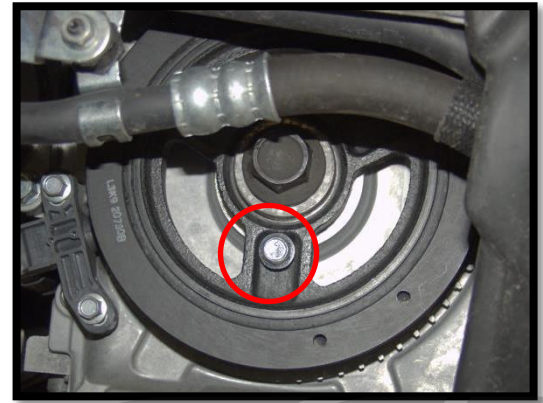

Figure 3q
- q) Remove the M6 bolt threaded through the crankshaft pulley un-locking it from the timing cover (red circle in Figure 3q).